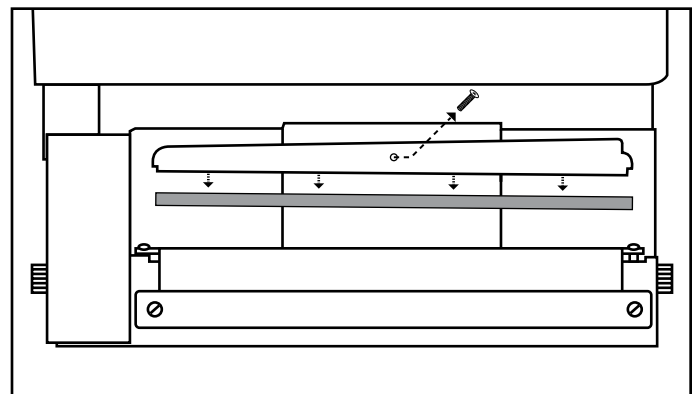

Figure 8: Replacing compression pad
2. Remove the nut and bolt retaining the compression pad holder. (See Figure 8)